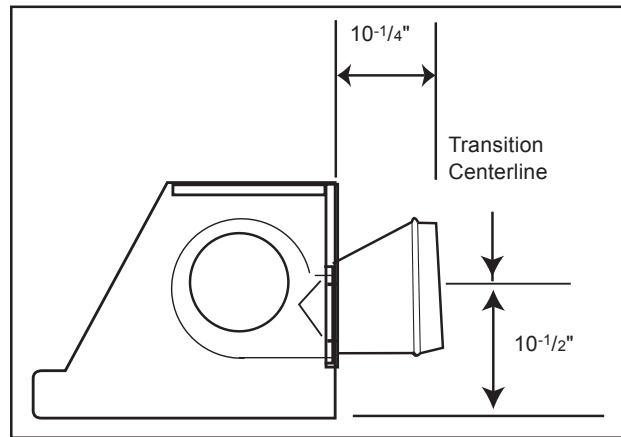

Figure 6
The transition supplied with the hood connects to standard 10-inch round duct. Figure 6 shows the transition connected for horizontal discharge.
12. Before hanging hood, install transition per Fig. 6. Fasten transition with 2 screws (#8 x 3/8 sheet metal, supplied) and tape per code. **Note:** screws must not hinder damper operation.